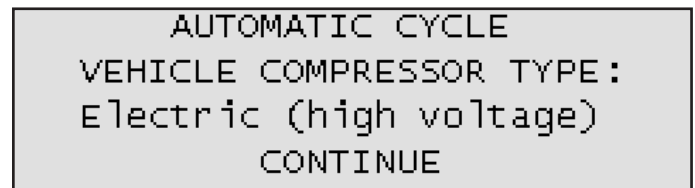

Fig. 16: Compressor type selection
4. A screen will then appear to adjust the vehicle's compressor type (Fig. 16). Use \leftarrow to change between **ELECTRIC** and **MECHANICAL** compressor type, press \downarrow to select **CONTINUE**, then press \rightarrow .